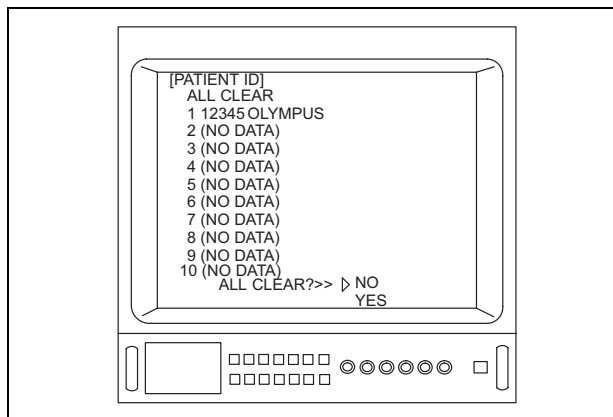

Figure 5.50
5. Depress the menu switch “◀” or the “Enter” key on the keyboard. Then, the menu shown in Figure 5.50 is displayed on the video monitor.